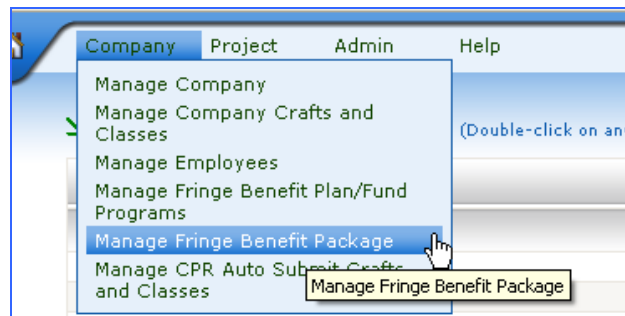
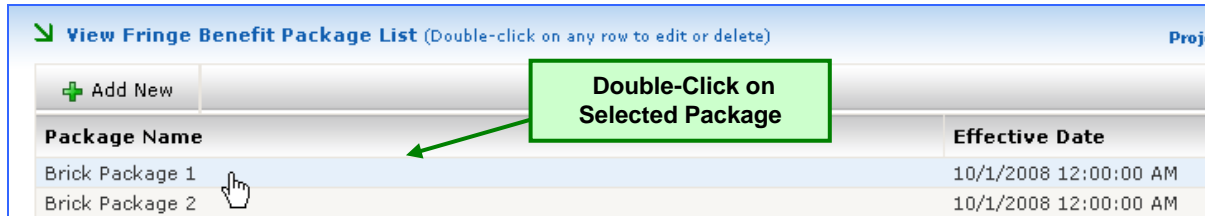

Figure 54 - Manage Fringe Benefit Packages Menu
Figure 55 - Select Package Screen
1. From the Company menu, click on “Manage Fringe Benefit Packages” (Figure 54). This will open the Fringe Benefit Package List screen (Figure 55).